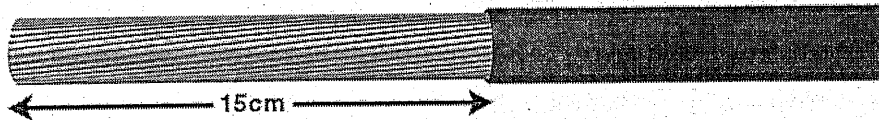

Figure 17.
2. Remove the clear binder tape (2nd layer) for a length of 15cm from the end of the HVSC, this will expose the outer screen copper conductors as shown in Figure 17.